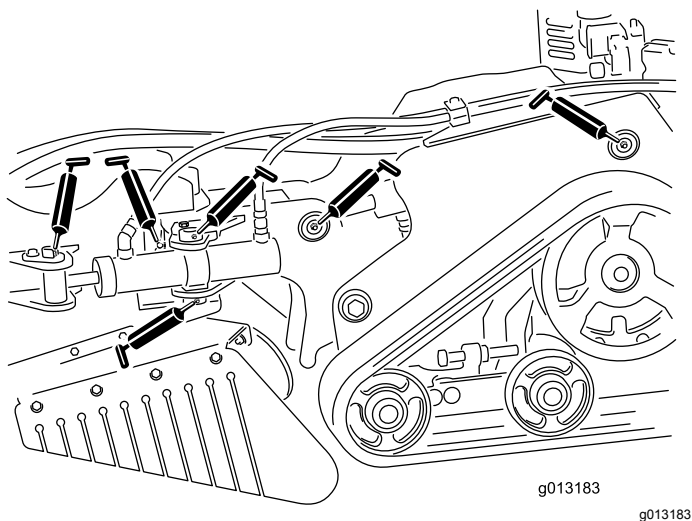
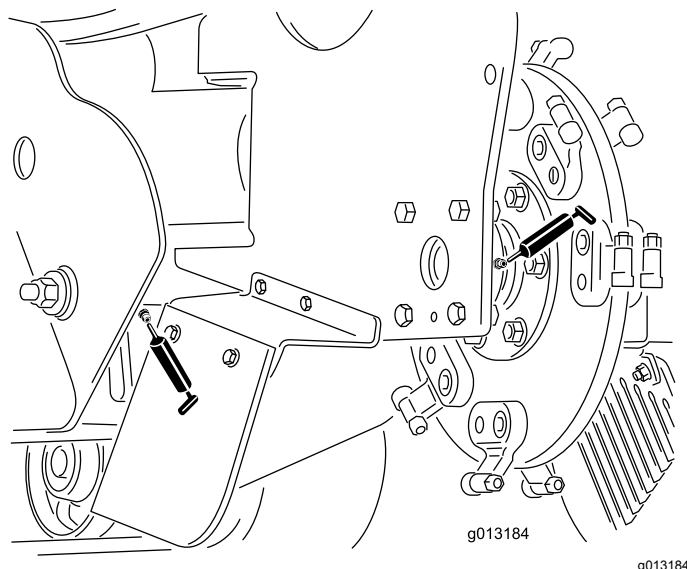

Figure 24
Figure 25
4. Connect a grease gun to each fitting (Figure 24 and Figure 25).